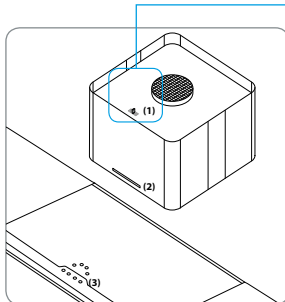

Abb. 1 Insetleiste in Standardausführung mit Stick (1) und Bedienfeld (2)
Fig. 1 Extractor in standard design with Stick (1) and control panel (2) The hood is controlled via the master switch on the cooking plate (3) or the control panel of the hood. The color temperature is 4,000 K.